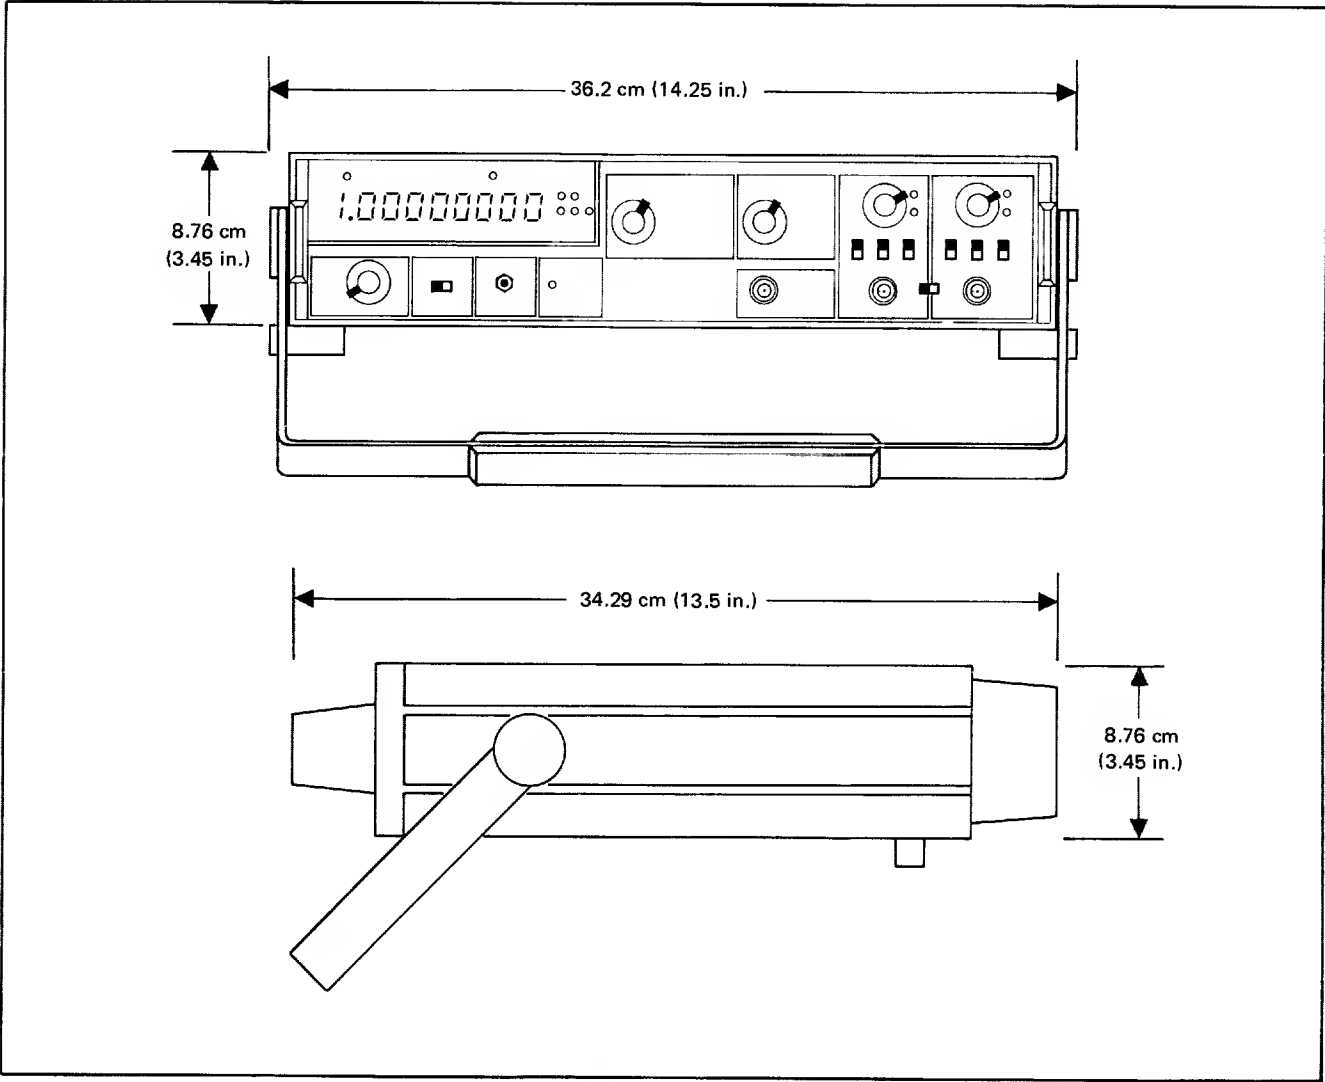

Figure 1-1. Model 1953A Dimensions
**DIMENSIONS (See Figure 1-1)**